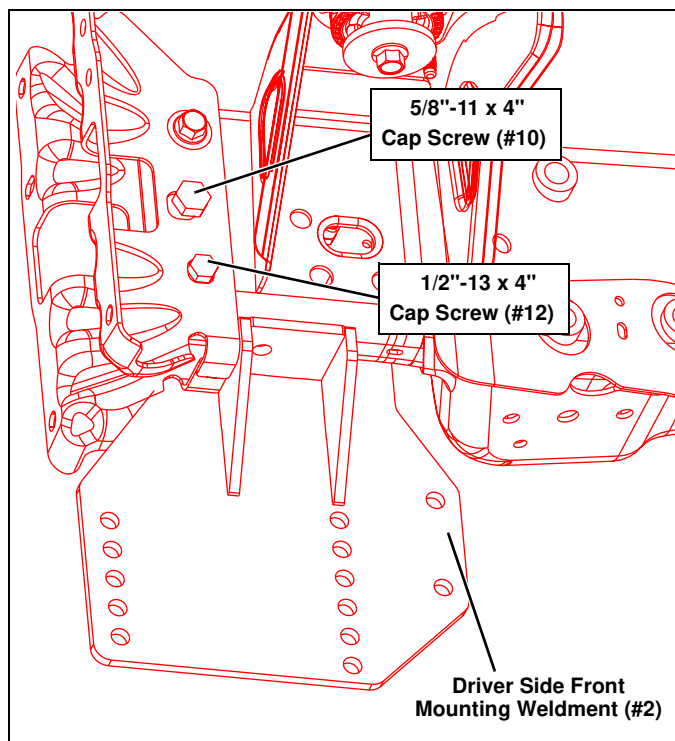

Figure 5
- Insert a 1/2"-13 x 4" Cap Screw (#12) through the lower bumper bracket and secure to the Driver Side Front Mounting Weldment (#2) with a 1/2"-13 Locknut (#13). (See Figure 5.)
- Insert a 5/8"-11 x 4" Cap Screw (#10) through the frame and front tow hook hole, then secure to the Driver Side Front Mounting Weldment (#2) with a 5/8"-11 Locknut (#11). (See Figure 5.)